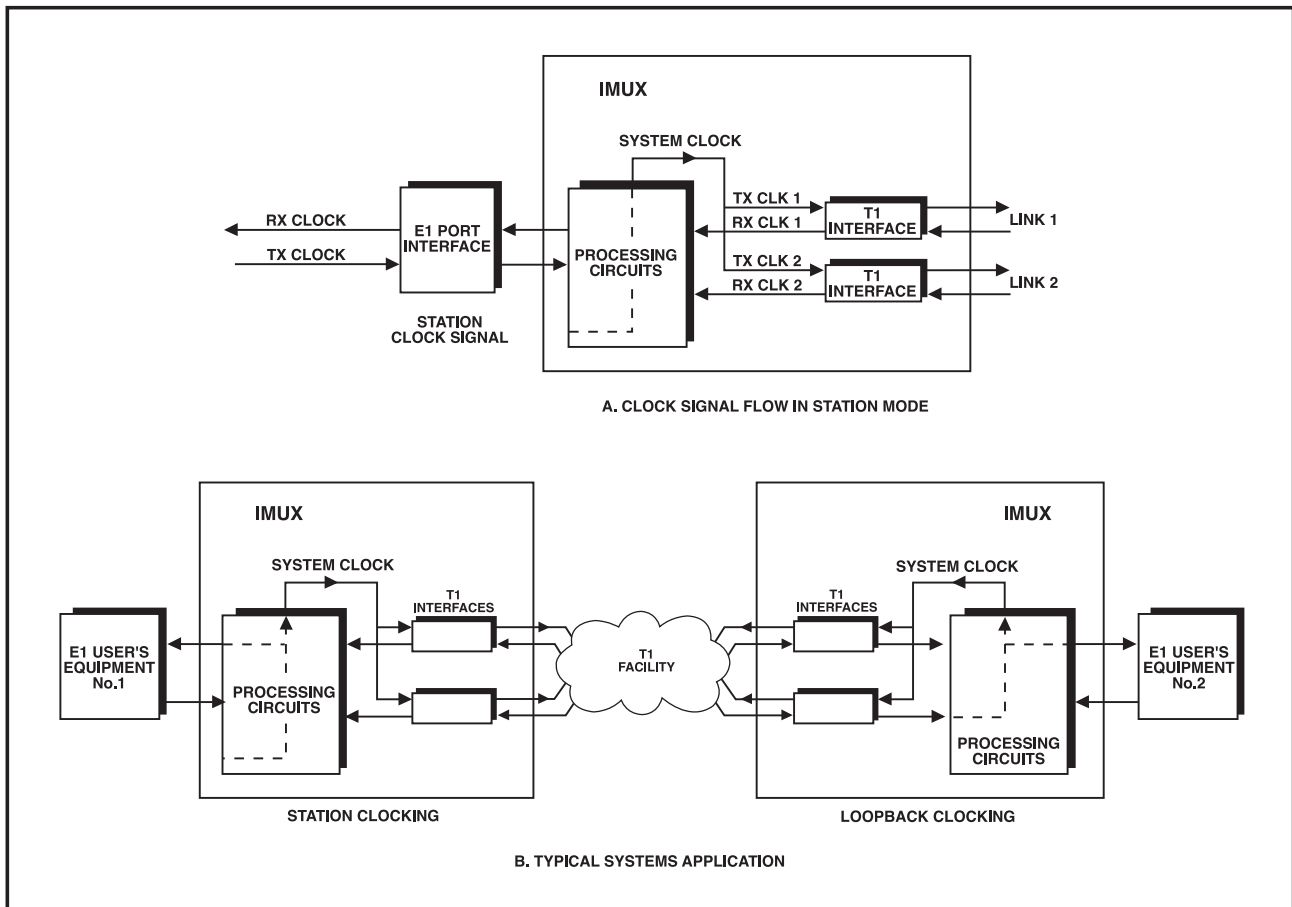

Figure 7-5. Flow of Timing Signals in Station Timing Mode.
**Part A** of **Figure 7-5** shows the flow of timing signals in an 2T1/E1 IMUX using the station timing mode.
When external clocking is used by an 2T1/E1 IMUX, the 2T1/E1 IMUX at the remote end of the link must use either loopback timing, or external timing derived from the same timing source that provides the timing signal for the other 2T1/E1 IMUX. An external (station) clock signal is usually available in locations that include higher-level multiplexors—for example, T3 multiplexors. **Part B** of **Figure 7-5** shows the flow of timing signals in a system that uses station timing at one end of the link, and loopback timing at the other end of the link.